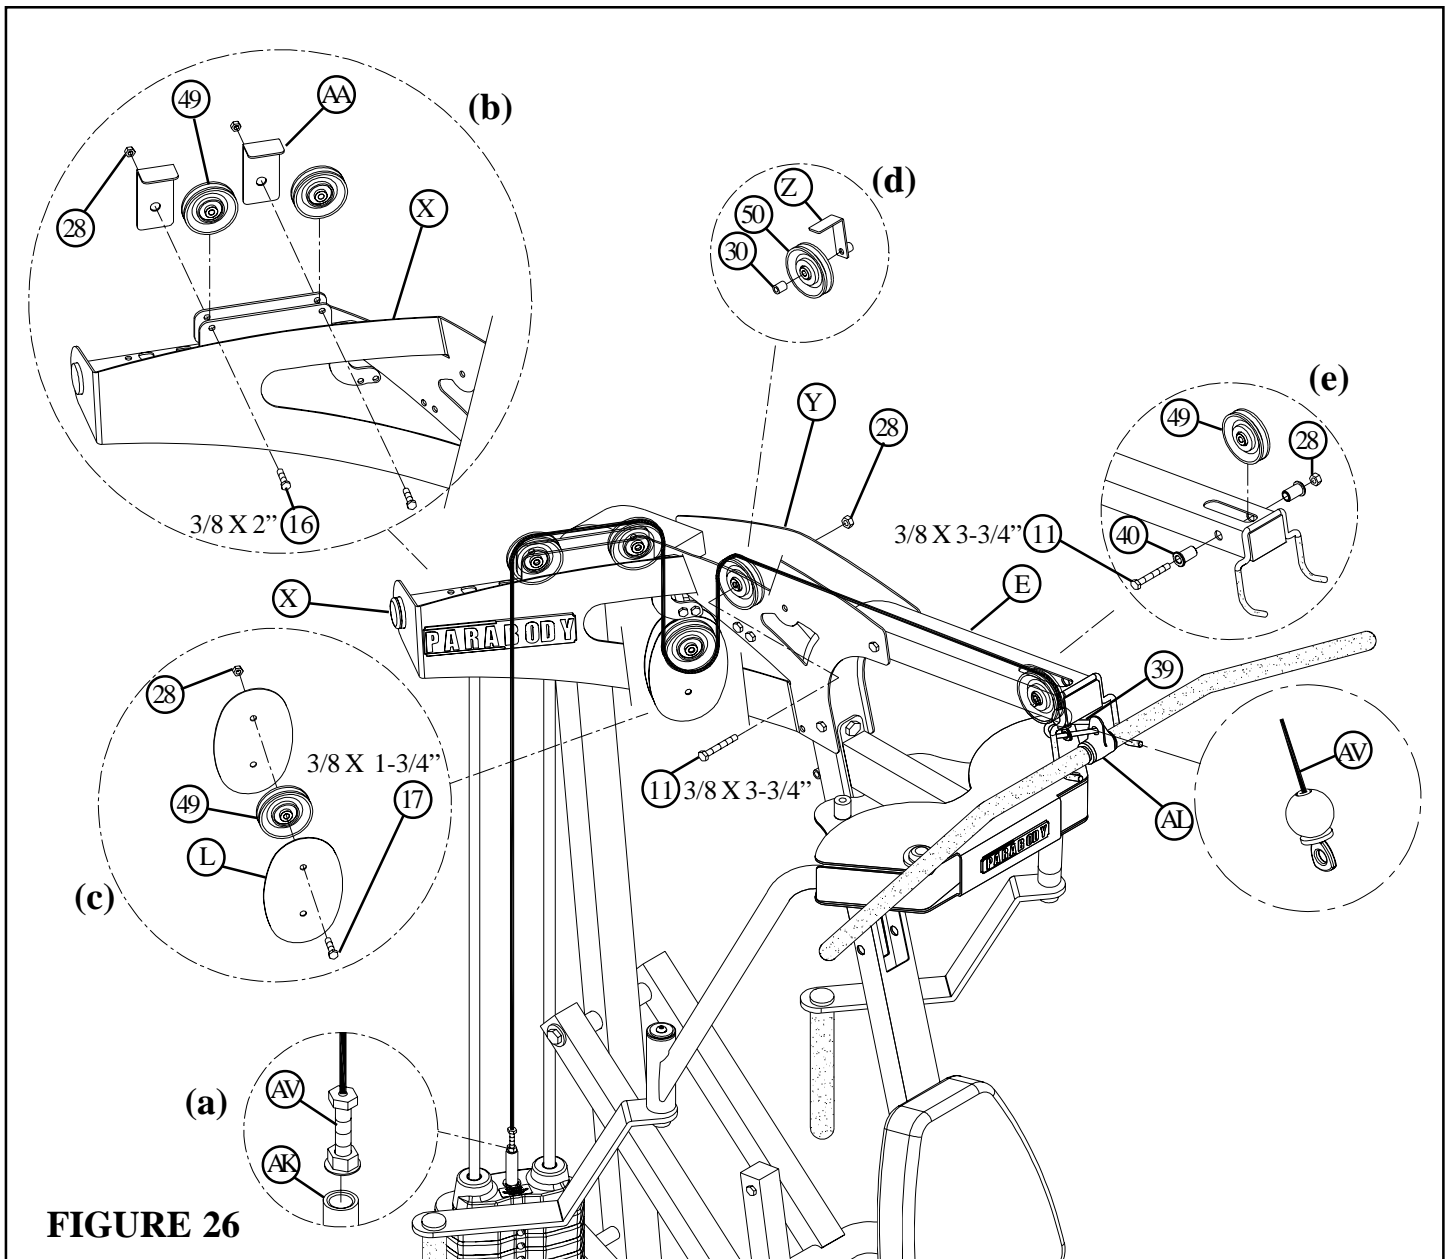

FIGURE 26
- Screw the long threaded end of the LAT CABLE (AV) into the end of the HEAD PLATE (AK) .See FIGURE 26(a)
- Assemble two 3-1/2" PULLEYS (49) to the RIGHT TOP ASSEMBLY (X) using two 3/8 X 2" BOLTS (16), two L CABLE RETAINER (AA) and two 3/8" LOCK NUTS (28) as shown in FIGURE 26(b)
- Route the LAT CABLE (AV) around the pulleys in the RIGHT TOP ASSEMBLY (X) as shown in FIGURE 26. (**NOTE: Make sure the cable runs in the grooves of the pulleys.**)
- Route the LAT CABLE (AV) around one 3-1/2" PULLEY (49) and assemble two FLOATING PULLEY PLATES (L) to the 3-1/2" PULLEY (49) using one 3/8 X 1-3/4" BOLT (17) and one 3/8" LOCK NUT (28). See FIGURE 26(c)
- Route the LAT CABLE (AV) around one 4-1/2" PULLEY (50) and assemble the PULLEY to the RIGHT TOP ASSEMBLY (X) and the LEFT TOP PLATE (Y) using one 3/8 X 3-3/4" BOLT (11), one 3/8 X 15/16" SPACER (30), one LONG "L" CABLE BRACE (Z) and one 3/8" LOCK NUT (28). See FIGURE 26(d)
- Route the LAT CABLE (AV) around one 3-1/2" PULLEY (49) and assemble the PULLEY to the FRONT FRAME (E) using one 3/8 X 3-3/4" BOLT (11), two 3/8 X 1-1/16" FLANGE SPACERS (40) and one 3/8" LOCK NUT (28). See FIGURE 26(e)
- Assemble the LAT BAR (AL) to the LAT CABLE using one SNAP LINK (39) as shown in FIGURE 26.